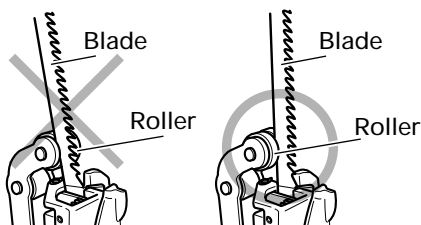

Fig. 5
- Confirm the blade located between the groove of roller. (Fig. 5)